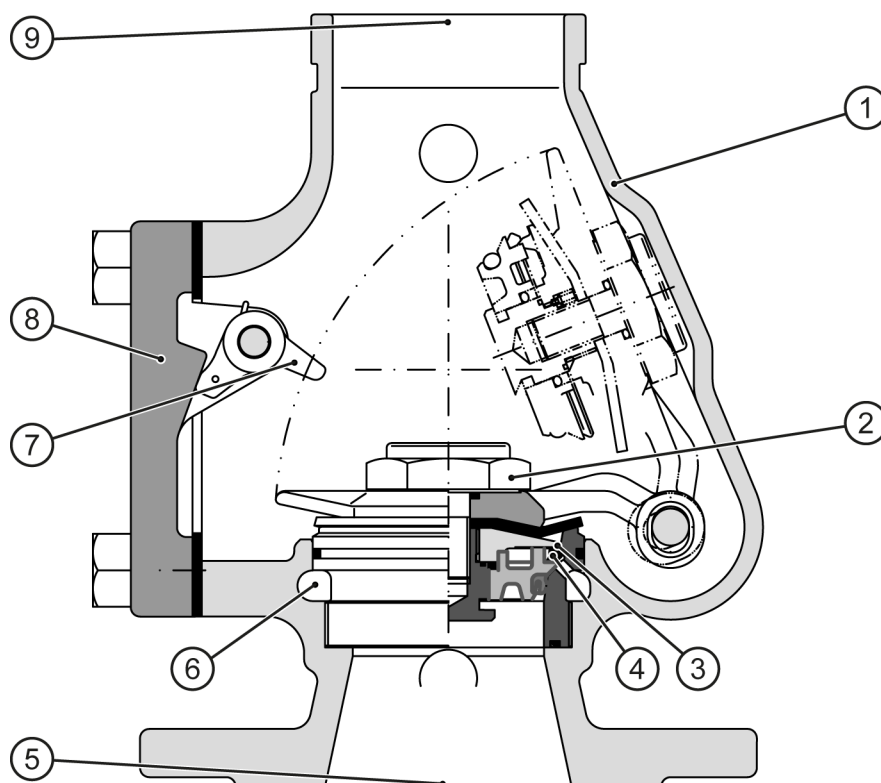

Fig. 14: Dry pipe alarm valve (sectional drawing)
If the dry pipe alarm valve (Fig. 14/1) is ready for operation the valve clapper (Fig. 14/2) is closed and thrust ring (Fig. 14/3) and spring washer (Fig. 14/4) are locking up the valve clapper. A certain air pressure from the sprinkler pipework (Fig. 14/9) presses on the valve clapper from above, so that the valve clapper resists the current water pressure from the water supply (Fig. 14/5) without opening.
If the air pressure in the sprinkler pipework (Fig. 14/9) drops to less than $\frac{1}{5}$ of the water pressure (Fig. 14/5), the water pressure unlocks thrust ring (Fig. 14/3) and spring washer (Fig. 14/4) and opens the valve clapper (Fig. 14/2):
- The water floods the sprinkler pipework (Fig. 14/9) and initiates the extinguishing process.
- The water passes through alarm channel (Fig. 14/6) to the alarm line and initiates the alerting.
After opening the clapper valve (Fig. 14/2) the locking device (Fig. 14/7) keeps the clapper valve in an open position and prevents the extinguishing process to be interrupted by closing the clapper valve. By opening the handhole cover (Fig. 14/8) the locking device can be removed from the clapper valve.